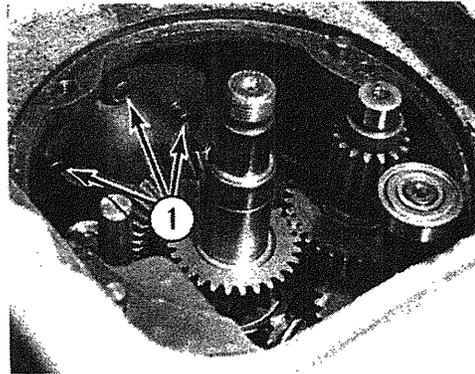

Fig. 4-7
- K. Remove three screws and lock-washers (1, Fig. 4-7). Remove attachment hub and bearing assembly out the front of the gear case and remove drive gear and thrust washer through inside of gear case.